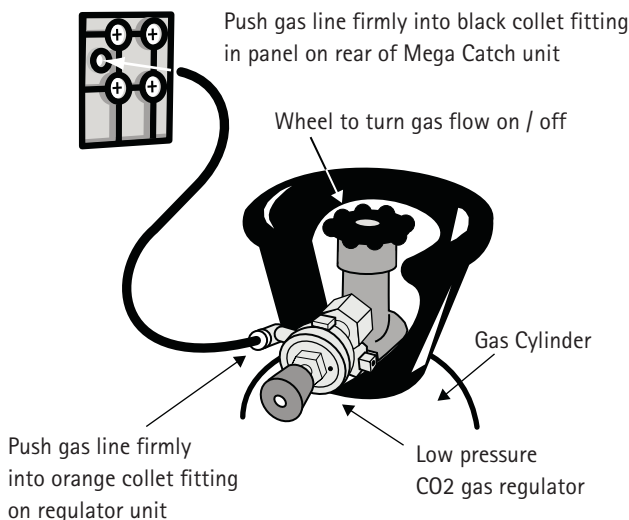

FIG 3.2 –Connection of trap to CO₂ gas cylinder
Before attempting to use the Variable Quantity Slow CO₂ Gas Release System you must first follow these instructions (also see figure 3.2 below):
4. Push one end of the gas line firmly into the orange collet fitting on the Gas Regulator unit. Push the other end of the gas line firmly into the black collet fitting in the panel on the rear of the Mega-Catch™ unit (see figure 3.2). Gradually turn on the CO₂ gas by turning the wheel on the top of the Gas Cylinder in an anti-clockwise direction.
6. To remove the gas line simply use two fingers to push the sides of the plastic collet fitting inwards then, using the other hand, firmly pull the gas line out of the collet fitting. If the line is damaged replace it. If however the damage is restricted to the end of the line simply cut out the damaged area. (**Note:** the collets are the orange fitting at the Regulator connection and the black fitting at the Trap connection). See figure 3.2.